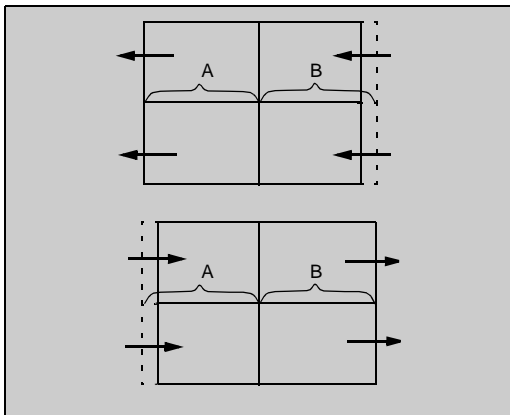

Figure 39. **Linear Mode Adjustment**
7. Adjust linearity by pressing VOL right-left until A=B (See Figure 39)
26. Adjust Horizontal linearity (See Figure 39)